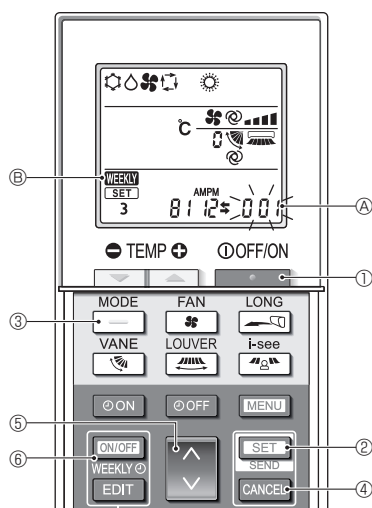

Fig. 6-7
- Press the **MENU** button ②.
6.8.8. How to disable Auto mode operation (Fig. 6-7)
1. Press the **STOP** button ① to stop the air conditioner.
- If the weekly timer is enabled, press the **ON/OFF WEEKLY** button ⑥ to disable the timer. (**WEEKLY** ⑥ disappears.)
2. Press the **SET** button ② for 5 seconds.
- The unit enters the function setting mode. (The group model setting number ① blinks.)
3. Press the **UP** button ④.
4. Completing the settings (Fig. 6-7)
- Press the **SET** button ② for 5 seconds.